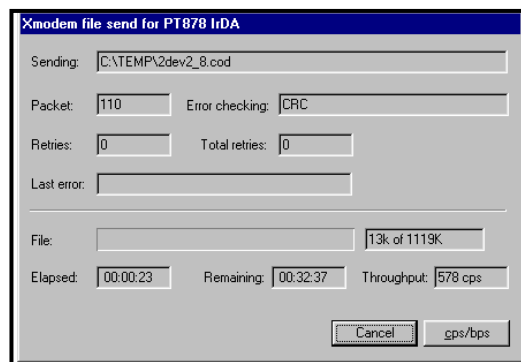

Figure 70: Transfer Menu Send File Window
2. Return to the PC Hyperterminal program. In the Hyperterminal window, pull down the *Transfer* menu and click *Send File*. A window opens similar to *Figure 70*.